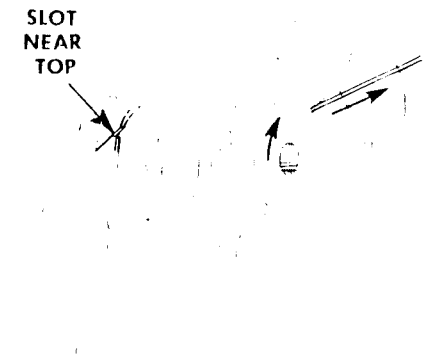

Fig. 17. Placing Bobbin in Bobbin Case
- Hold bobbin so that thread will unwind in the direction shown in Fig. 17.
- Hold bobbin case as shown in Fig. 17 and place bobbin into it.